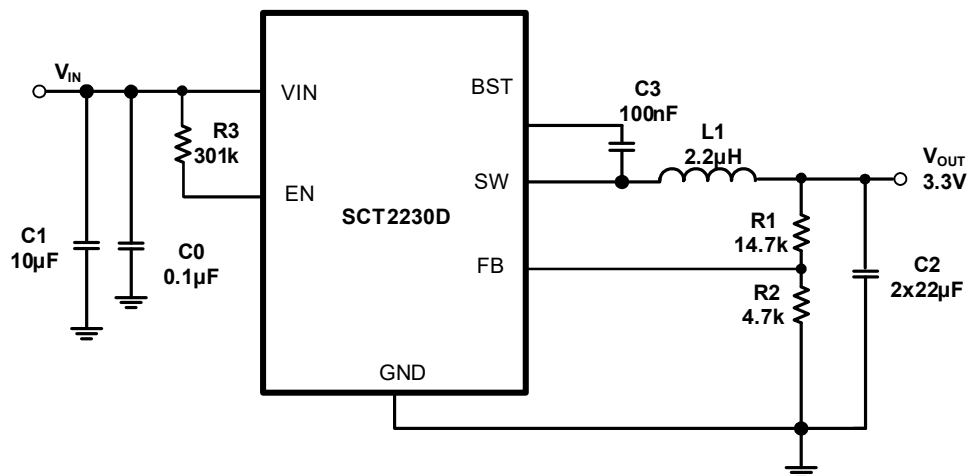

Figure 8. 12V Input, 3.3V/3A Output
The SCT2230D features external programmable output voltage by using a resistor divider network R1 and R2 as shown in the typical application circuit Figure 8. Use equation (8) to calculate the resistor divider values.